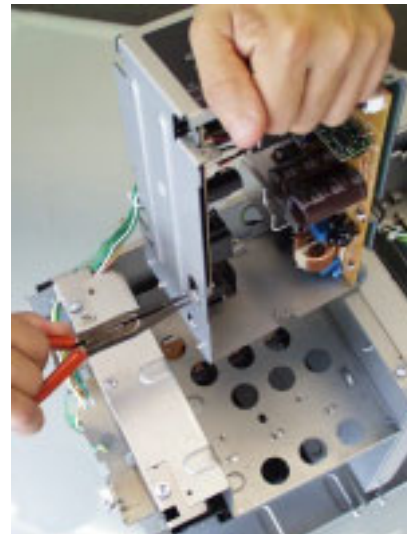

Figure 2-16 ABCS Power Supply Removal
6. Remove the Power Supply from the Cabinet (see Figure 2-16).
2. Set the power supply in its proper place in the cabinet (see Figure 2-16).